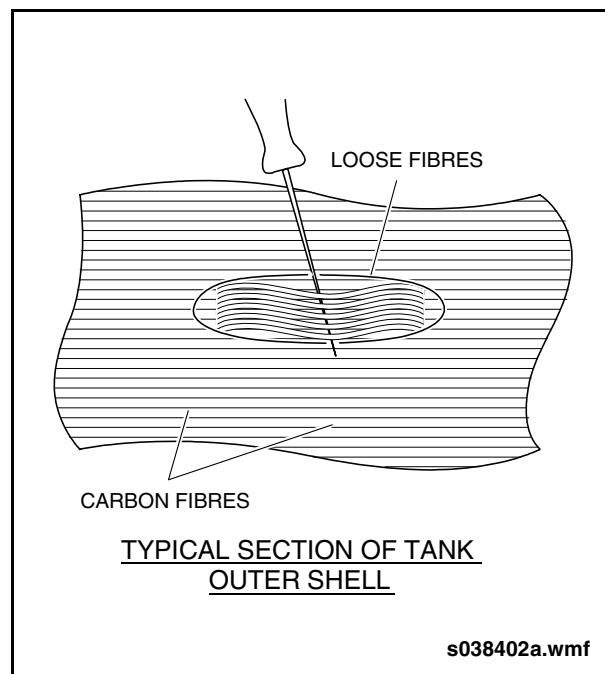

Fig. 7-22: Lvl. 2a-Loose Fiber Damage (customer rework)
2. The container has Level 2a damage that may be reworked in the field and the container can be returned to service. See "Fig. 7-22: Lvl. 2a-Loose Fiber Damage (customer rework)" on page 67.